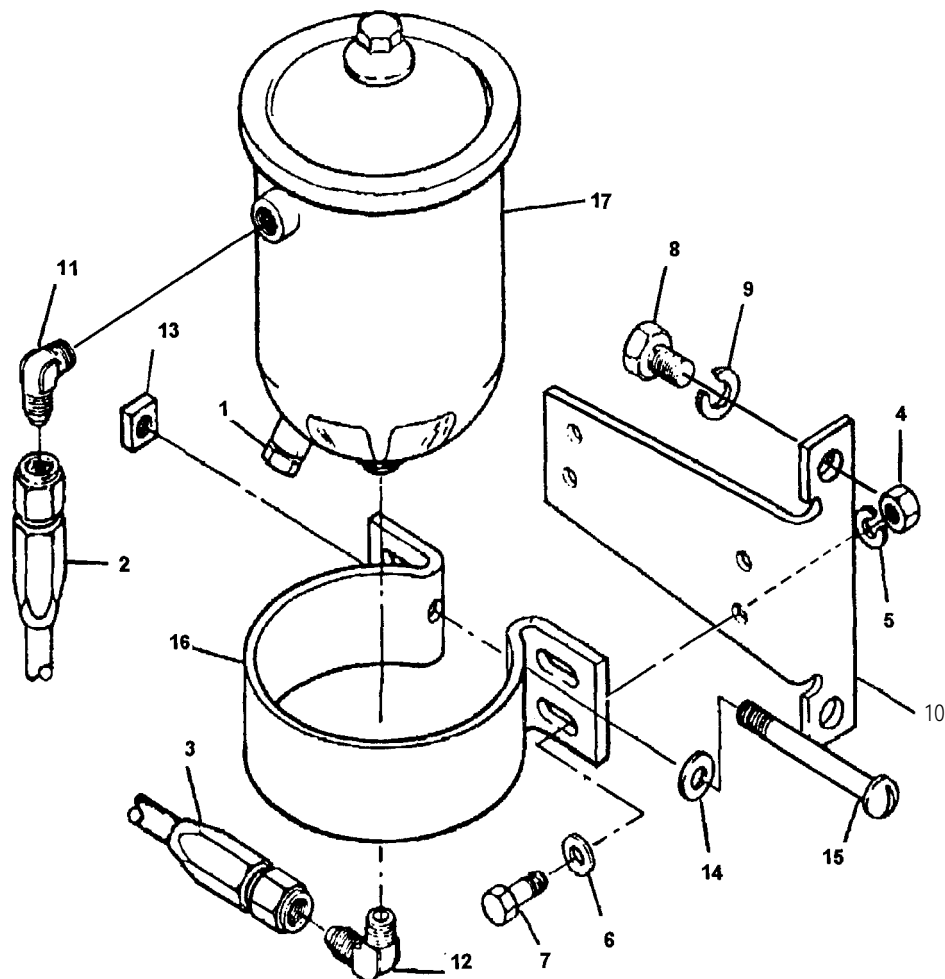

Figure 4-27. Lubrication Oil Filter Assembly, Removal and Installation
- (1) Remove drain plug (1, Figure 4-27) and allow the oil to drain into a suitable container.
- (2) Disconnect hose assemblies (2 and 3) from the filter assembly.
- (3) Remove nuts (4), lockwashers (5), flat washers (6) and screws (7).
- (4) Do not remove screws (8), lockwashers (9) and mounting bracket (10) unless inspection reveals damage.